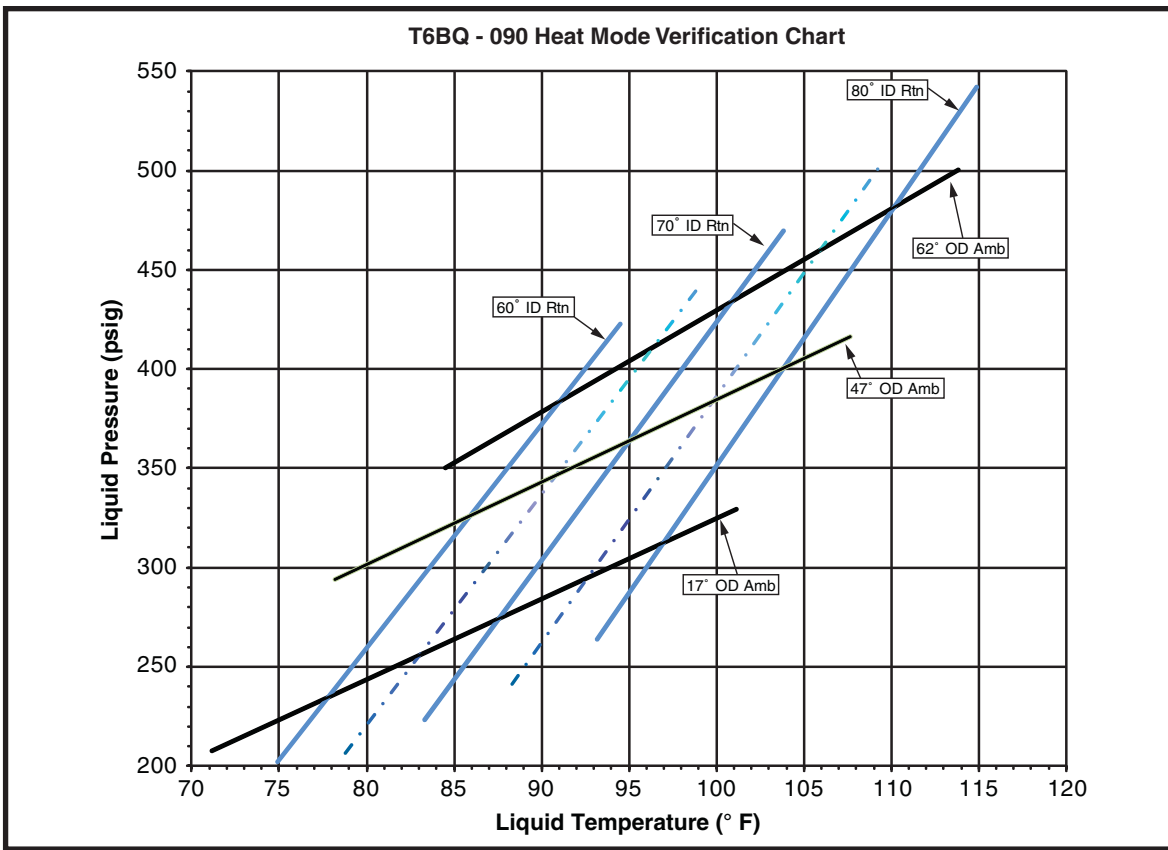
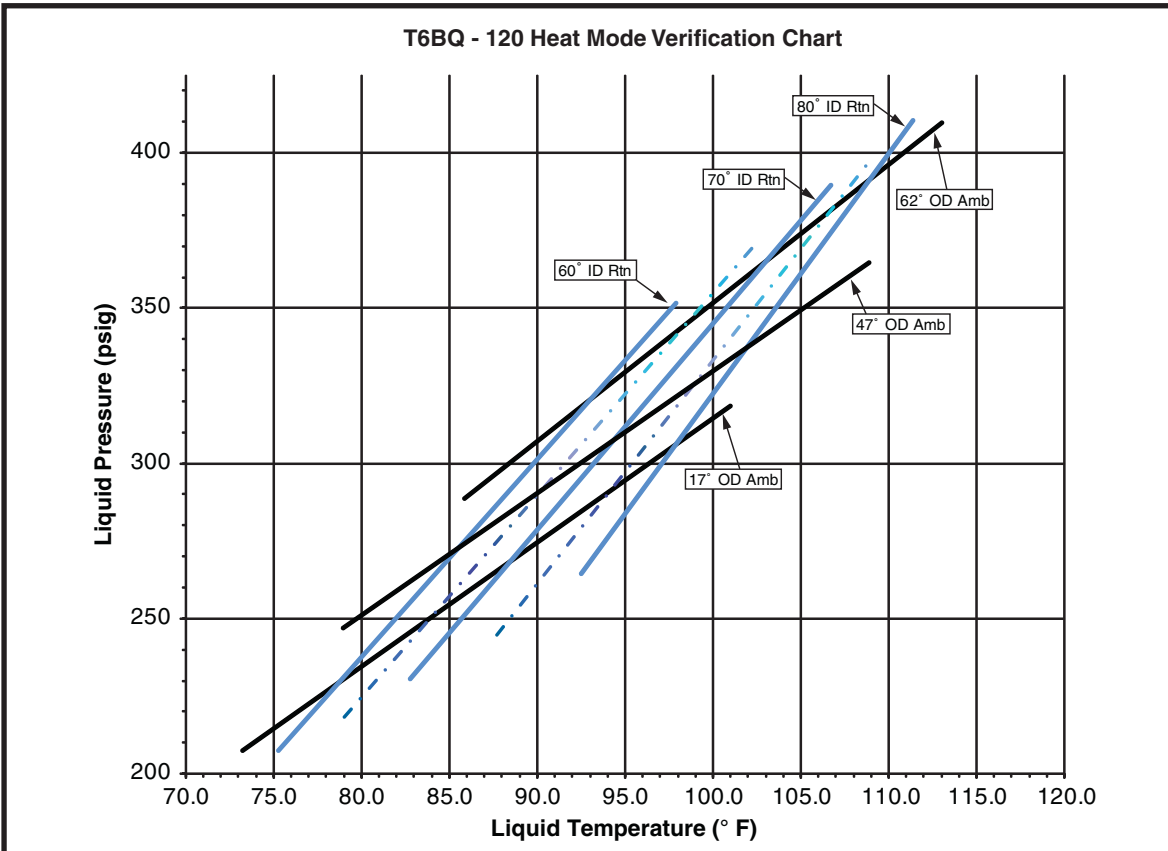

Figure 5. Verification Chart for 7 1/2 ton units
Figure 6. Verification Chart for 10 ton units
- Heat mode verification charts are provided for quick reference when the unit is in heating mode and for the inspection of the liquid line pressures and temperatures. Refer to Figure 5 for 7.5 ton units or Figure 6 for 10 ton units (page 13).
- Before using the heat mode verification charts (Figure 5 & Figure 6), determine the outdoor ambient temperature and the return air temperature to the unit. Locate the appropriate location on the units verification chart based on those measurements to determine the ideal liquid line pressure and temperature. Verify the outdoor fan and compressor are running and the outdoor coil is free from frost accumulation. Also verify the system is not operating in defrost mode before inspecting the system. **NOTE:** If the unit is equipped with an economizer or mixing box, determine the mixed air temperature entering the filters.